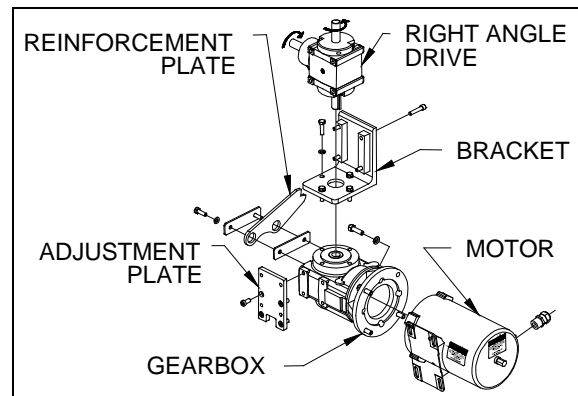
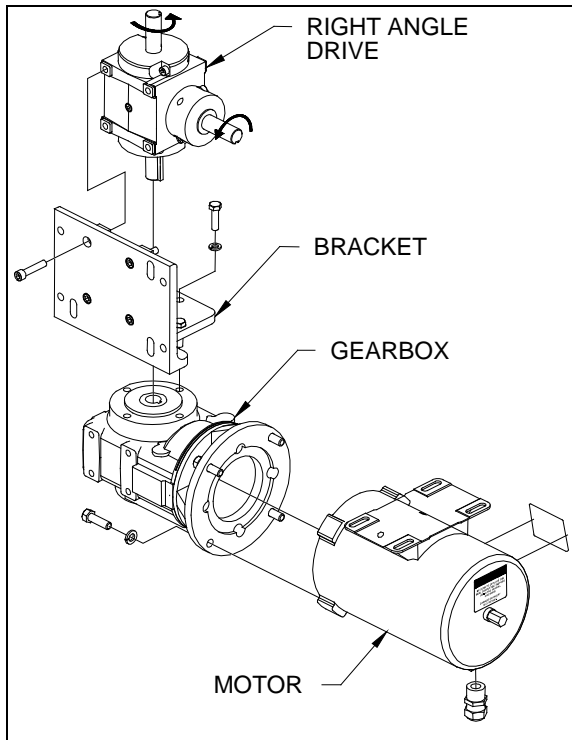

FIGURE 24 : FRONT SLIDE-OUT MOTOR ASSEMBLY
FIGURE 25 : REAR SLIDE-OUT MOTOR ASSEMBLY
- For the front slide-out:** Remove the reinforcement plate from the gearbox (figure 24).
5. Remove the gearbox assembly (figure 24 and figure 25). Note the shim position.
6. Unscrew the right angle drive from its bracket (figure 24 and figure 25).
9. Check the right angle drive rotation (figure 24 and figure 25) before installing it on the bracket. Align the right angle drive shaft with the gearbox hollow shaft and tighten all screws.